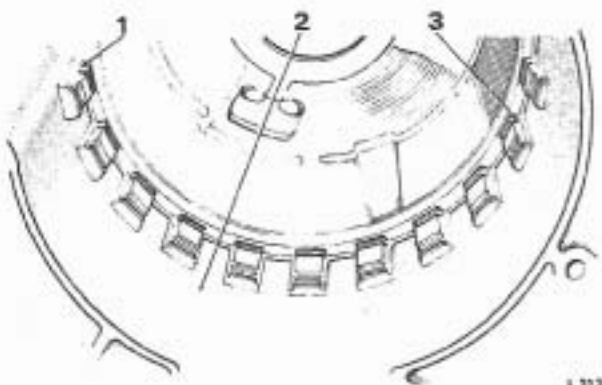

FIG. T287 FITTING THE INTERMEDIATE CLUTCH PLATES
3. Fit the support to case spacer against the shoulder at the bottom of the case splines and the gap located adjacent to the band anchor pin (see Fig. T287).